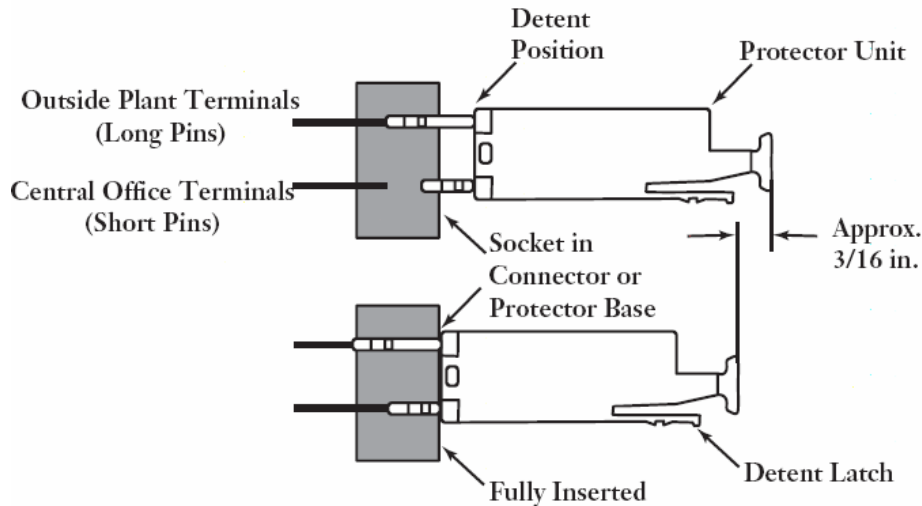

Figure 3 - Protector Detail
5.1 Each protector unit (Figure 3) has male pins on the base, a finger grip for removal, and a detent latch. Protector units provide the following connections and terminations:
- Tip (T)- and Ring (R)-conductor terminations for one outside plant cable pair and parallel connection to equivalent test field pair through the two long pins on the base.